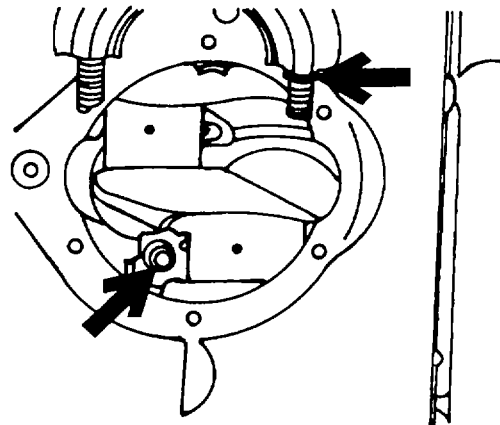

Figure 5-25. Inspect for Dowel Centering Sleeves
21. A centering sleeve must seat in each of the bolt holes in the bearing cap and bearing web (figure 5-25).